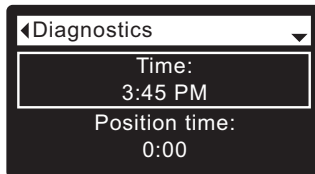

FIG. 151
8. Press the SELECT (O) button to display the Diagnostics screen (See Figure 151).